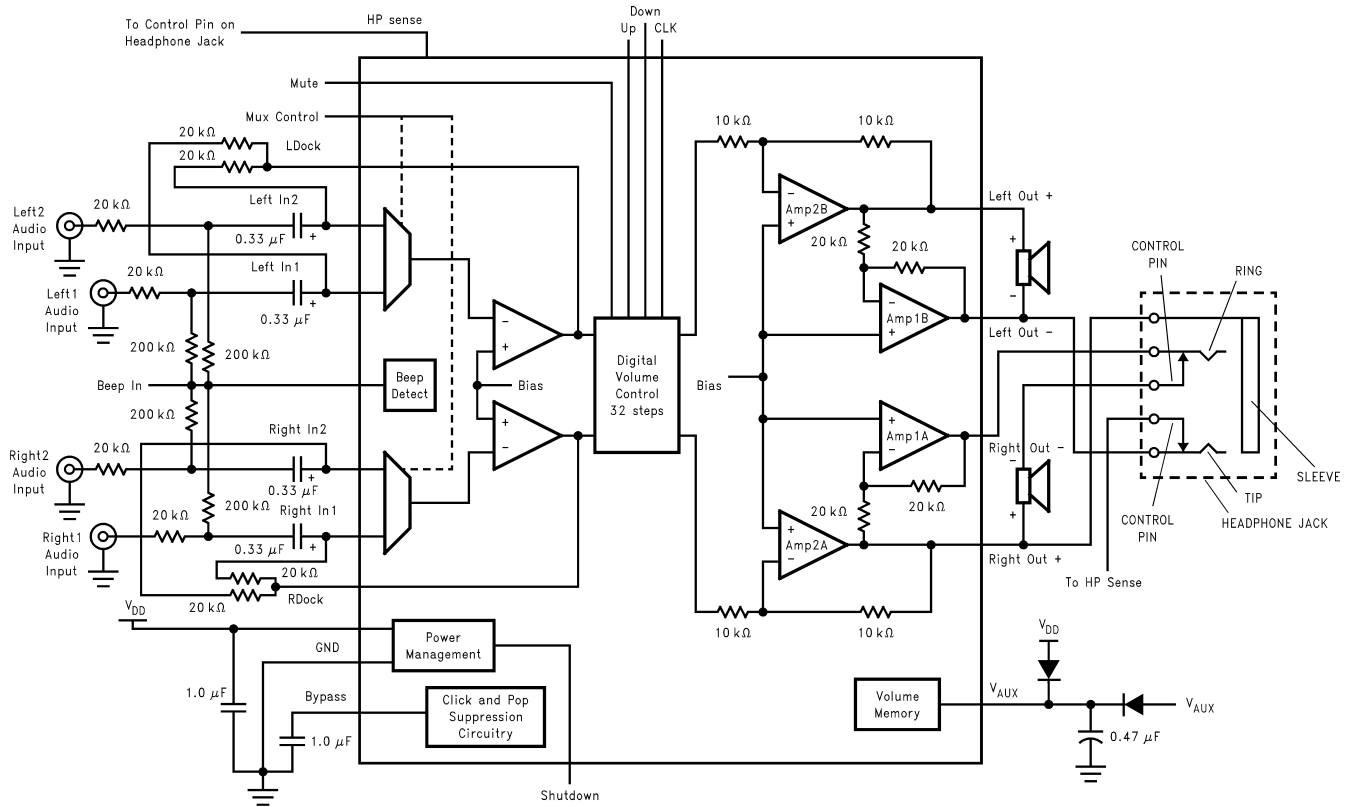

Figure 1. LM4840 Block Diagram
- (1) All voltages are measured with respect to the ground pins, unless otherwise specified. All specifications are tested using the typical application as shown in Figure 1.
- (2) *Absolute Maximum Ratings* indicate limits beyond which damage to the device may occur. *Operating Ratings* indicate conditions for which the device is functional, but do not ensure specific performance limits. *Electrical Characteristics* state DC and AC electrical specifications under particular test conditions which ensure specific performance limits. This assumes that the device is within the Operating Ratings. Specifications are not ensured for parameters where no limit is given, however, the typical value is a good indication of device performance.
- (3) Typical values are specified at  $25^\circ C$  and represent the parametric norm.
- (4) Datasheet min/max specification limits are specified by design, test, or statistical analysis.
- (3) Typicals are specified at  $25^\circ C$  and represent the parametric norm.
- (5) When driving  $3\Omega$  loads from a 5V supply the LM4840LQ and LM4840MH must be mounted to the circuit board and forced-air cooled.
- (6) When driving  $4\Omega$  loads from a 5V supply the LM4840LQ and LM4840MH must be mounted to the circuit board.